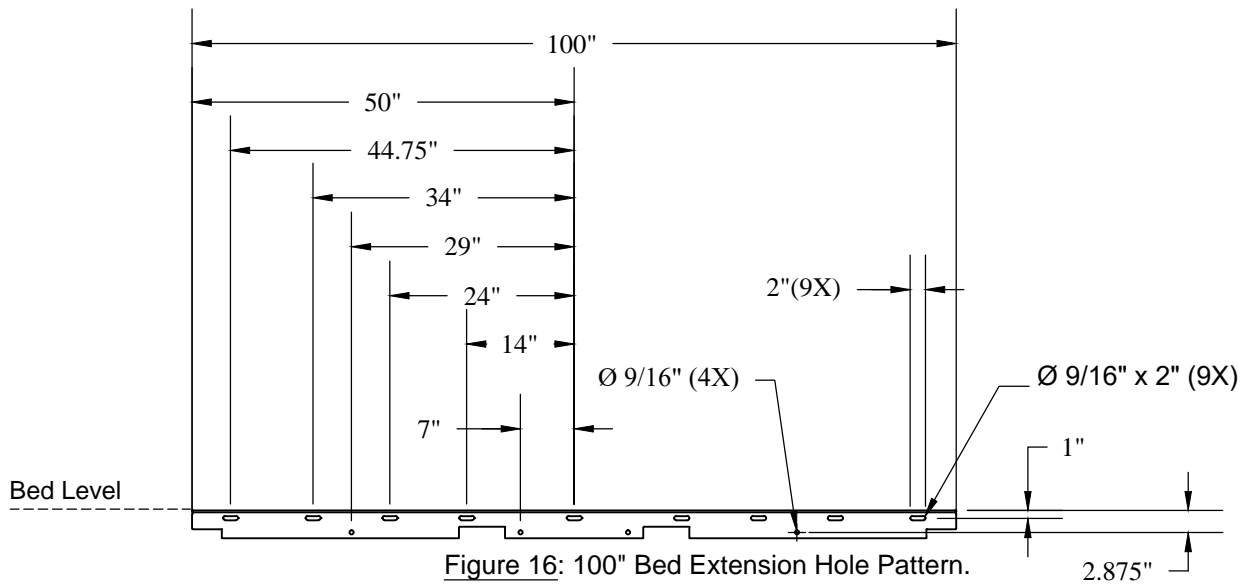

Figure 16: 100" Bed Extension Hole Pattern.
2. **Tighten** the adjusting screws equally, leaving a couple turns before they tighten and bottom out (Figure 16).